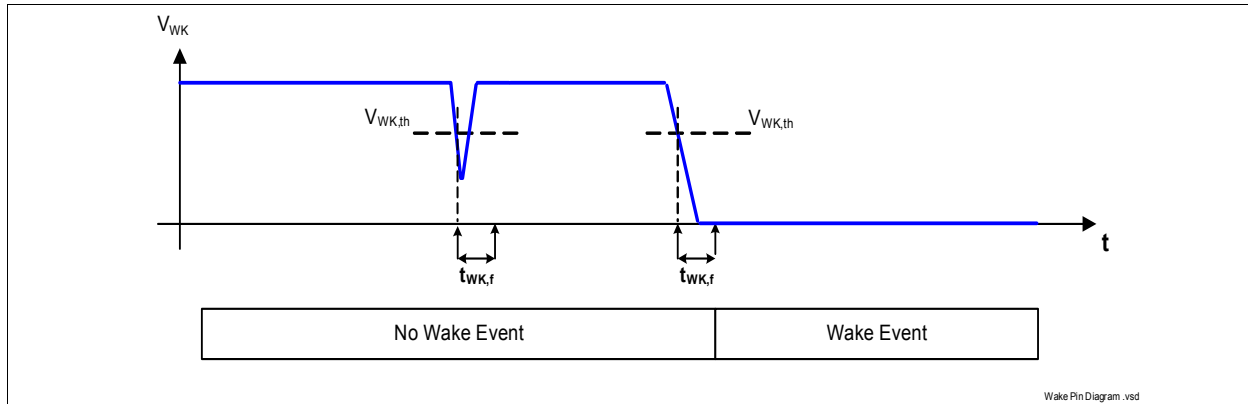

Figure 17 Wake-up Timing
**Figure 17** shows typical wake-up timing and parasitic filtering. The filtering time is  $t_{WK, f}$ . This is used to avoid a parasitic wake-up due to EMC disturbances. Specifically, the voltage transition on pin WK must be higher than the  $V_{WK, TH}$  and longer than  $t_{WK, f}$  to be understood as a wake-up signal.